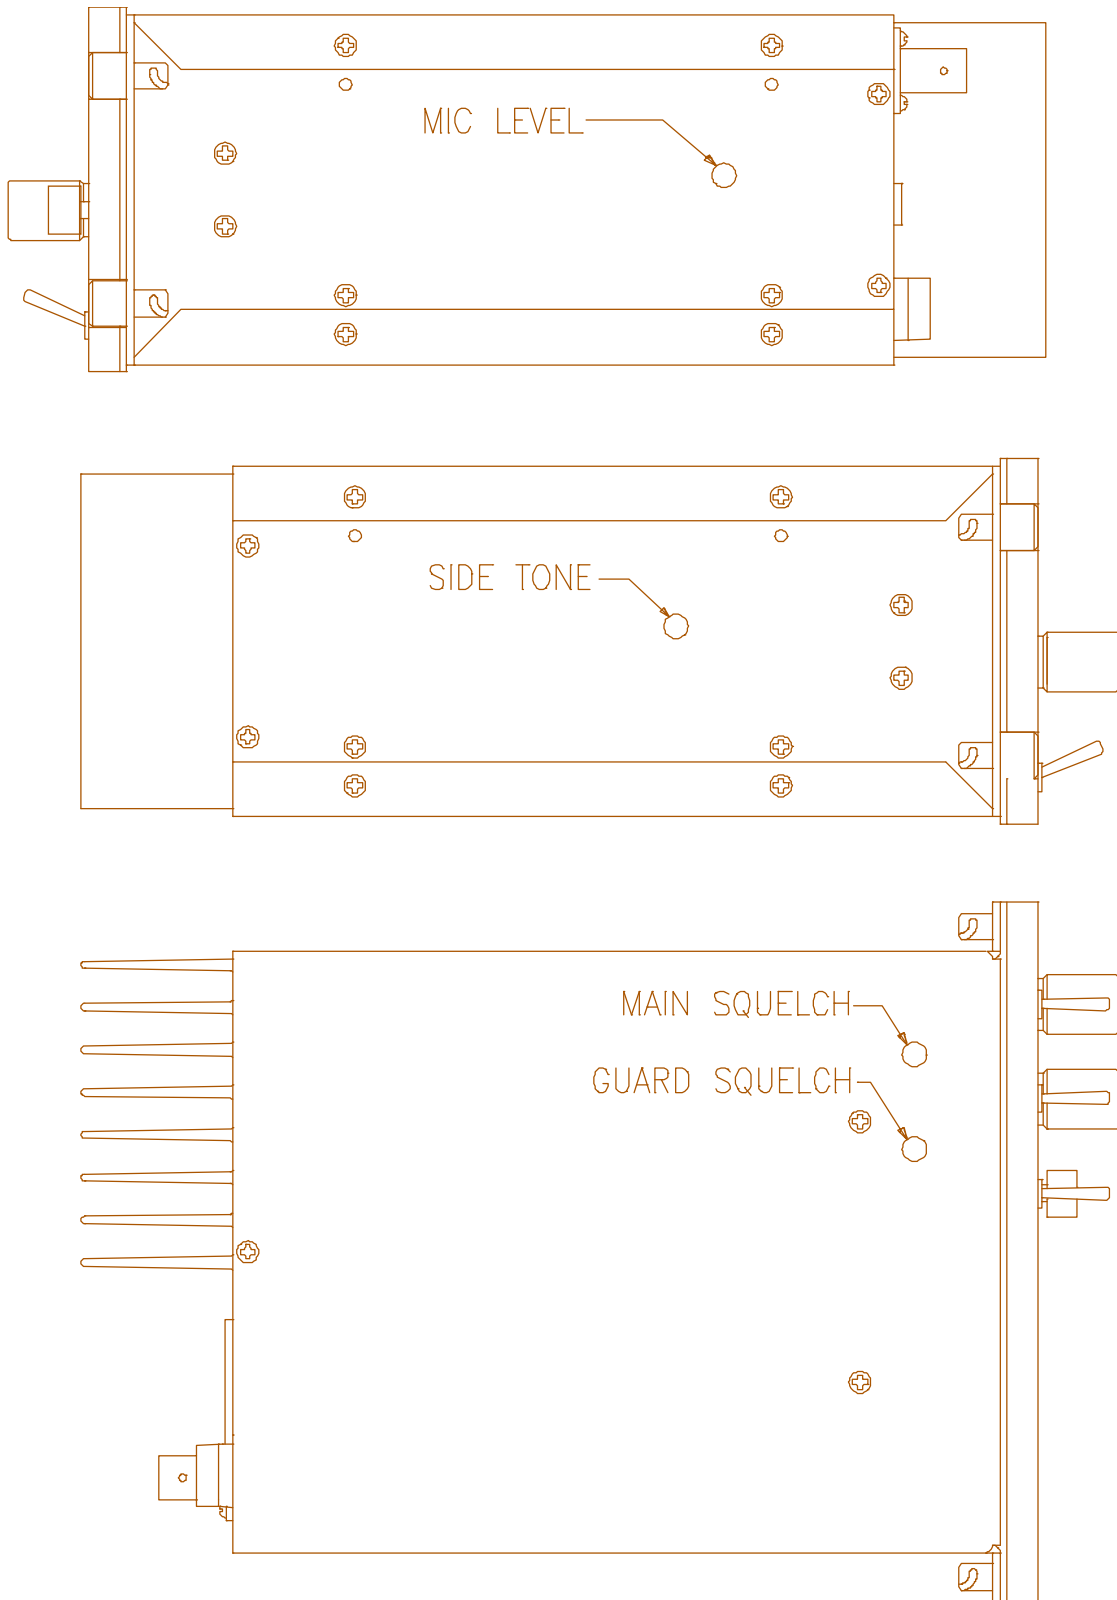

FIGURE 3.4 Internal Enable/Disable Jumper and Transmit High/Low Power Adjust Locations
3. Adjust the VHF MIC adjustment through the access hole located on the right side of the chassis (see Figure 3-4) to produce a 2.7 kHz deviation.
3. Adjust the sidetone level potentiometer (R37 on MCU module) through the access hole located on the left side of the chassis (see Figure 3.4) to produce a 0 dBm (0.774 VRMS) 600 ohm audio output.
3. If not, re-adjust main receiver squelch potentiometer, R3 through the access hole located on the bottom of the transceiver chassis (see Figure 3.4).
4. Repeat the above procedure to adjust the guard receiver squelch setting using guard receiver squelch adjustment potentiometer, R4 (see Figure 3.4).